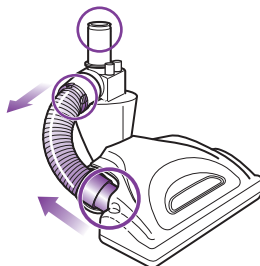

Fig. 30
- Detach the hose on the motorized floor brush at the top by squeezing the tabs together and pulling out, and at the bottom by pulling out the connector. Inspect inside the 3 holes. (**Fig. 30**)